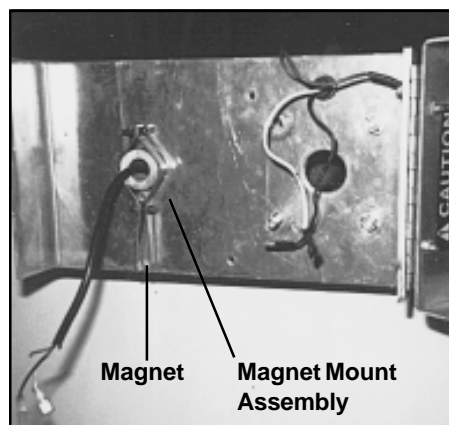

Figure 1
1. Remove the magnet from the assembly to prevent it from slipping out. Slip the motor leads through the center of the assembly and place it over the drive hub. Align the magnet mount assembly with the motor or output shaft and tighten (See figure 1). Replace the magnet.